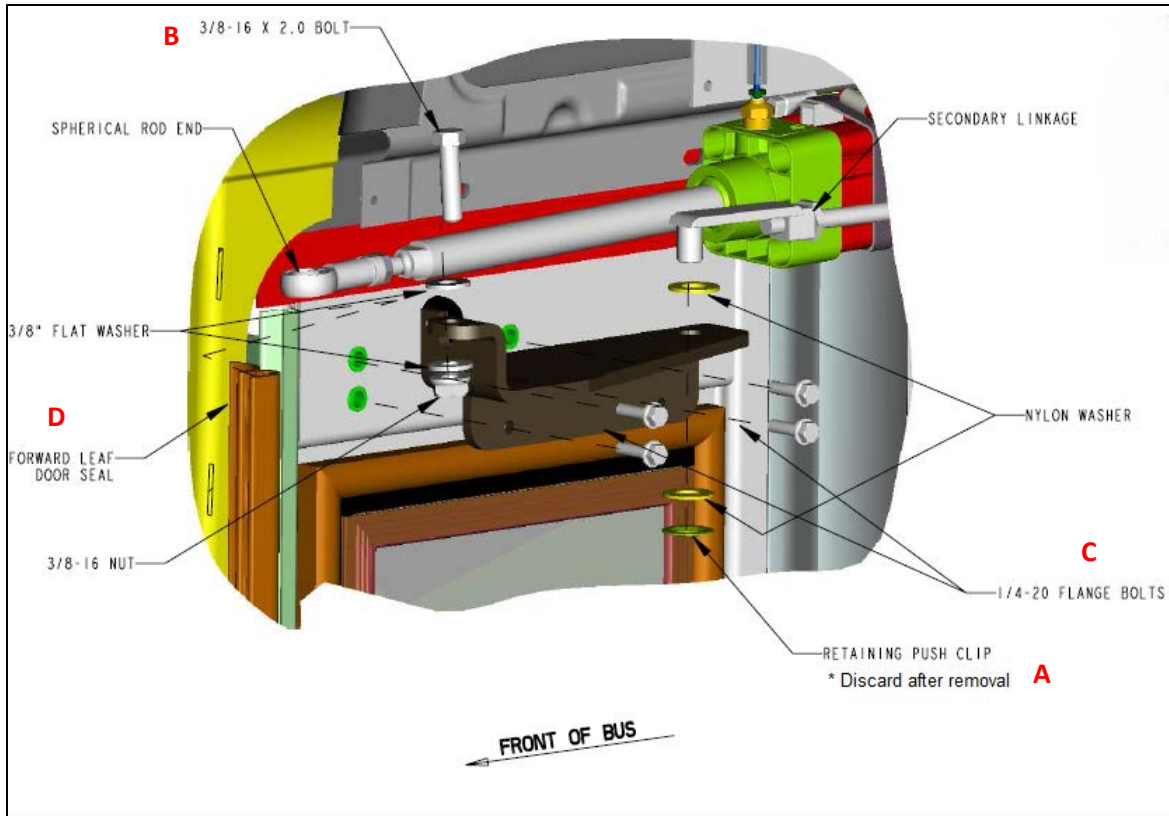

Figure 1: Parts locations
- 2) Remove the retaining push clip from the secondary linkage and discard. Retain the nylon washers for reinstallation. **See Figure 1 item A.**
- 3) Remove the 3/8 in. bolt, nut, and washers from the rod end of the cylinder. Retain the bolt, nut, and washer for reinstallation. **See Figure 1 item B.**
- 4) Remove all four 1/4 in. flange bolts that hold the existing bracket on the leaf. **See Figure 1 item C.** Discard the bracket and retain the four 1/4 in. bolts.
- 5) Using a screw gun, loosen the forward leaf door seal. **See Figure 1 item D.**